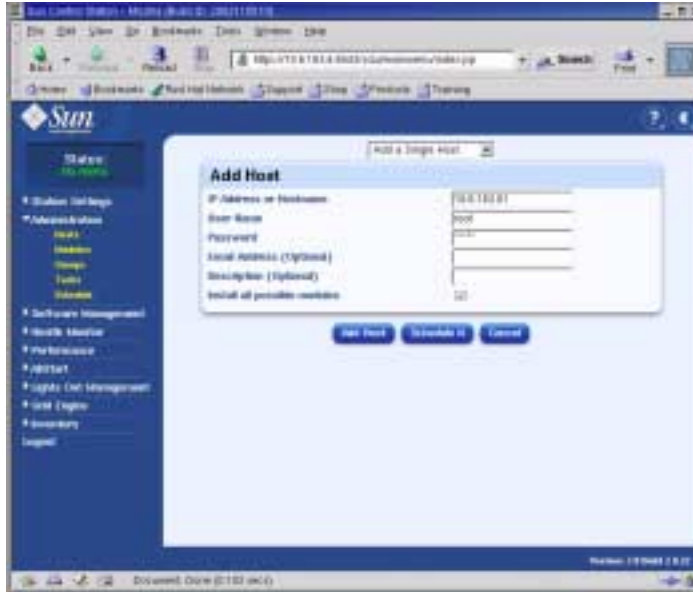

FIGURE 2-26 Add Host Window
3. In the Add Host window, define the settings for the node that you are defining as an SCS managed host. See FIGURE 2-26 for an example.